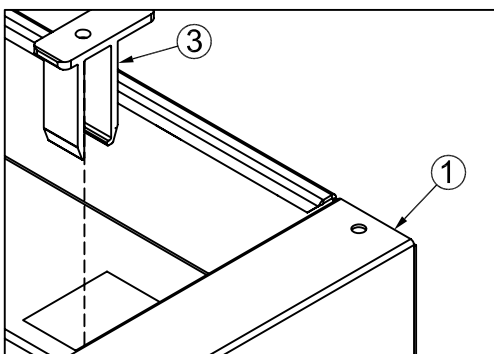

Fig. 12
14. Place J-hook receivers (#3) in rectangular openings in the toolbox (#1) closest to tailgate. (See Fig. 12)